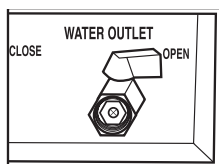

Fig. 2
3. Rinse thoroughly and drain by opening the water outlet, accessible when the door panel is opened. (Fig. 2) You may connect a hose (not supplied) to the water outlet (connection is female NPT ½ x 12) or drain direct from the valve. Open the water outlet and drain into a bucket or similar container.